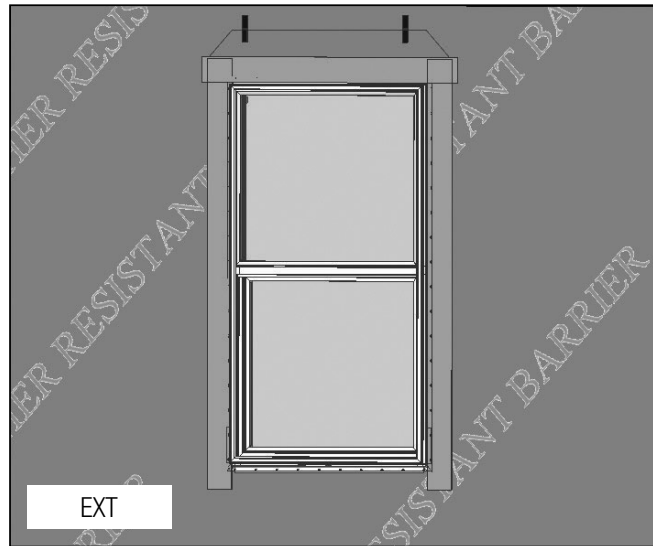

FIG. 14
- C) Cut and apply head flashing. The head flashing should run slightly past the edge of the side flashing as shown. (Fig. 14)